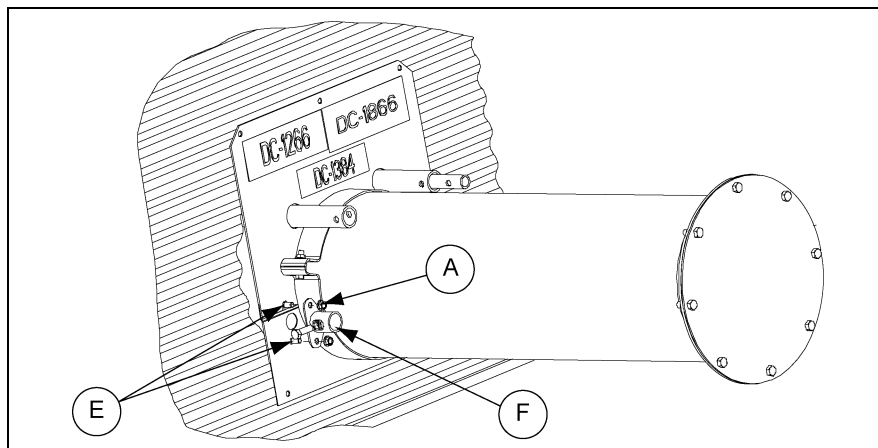

Figure 4Q
- Install the clutch control pipe position lock (F) to the lower bin flange using two (2) 5/16" x 3/4" carriage bolts (E) and serrated flange nuts (A). Install the carriage bolt heads on the backside of the lower bin flange so they will be next to the bin wall when the bin flanges are attached to the bin.
- With the bin flanges not yet attached to the bin wall, make sure that the bin wall opening is large enough for the clutch and well control rods to pass through the bin wall. (See Figure 4Q.)